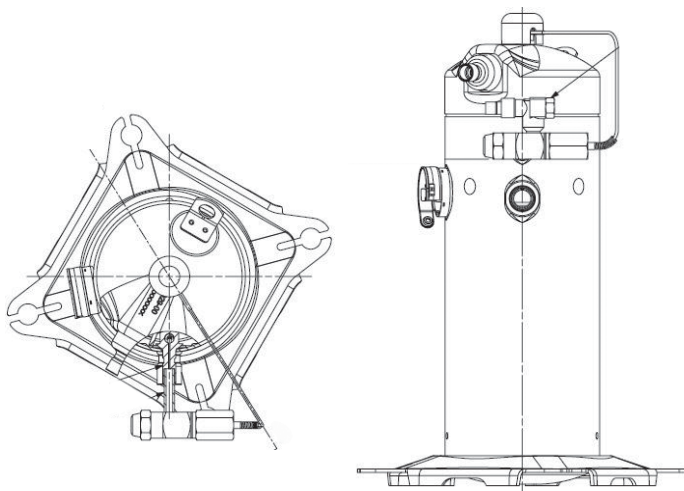

Figure 2. DTC valve installation
- a. The DTC valve should bottom out in the injection fitting and should be installed in a horizontal orientation. Please see the assembly in Figure 2.